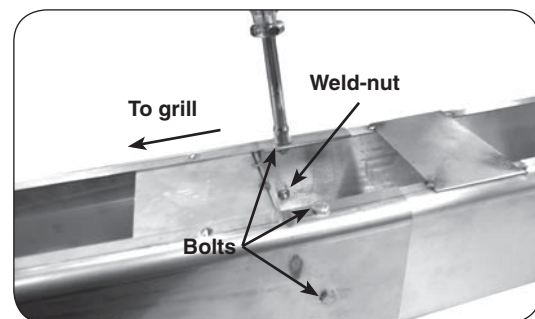

Fig. 20-2 Fasten extension to post
2. From outside the joined post and extension, insert one of the 1/4 X 20"-5/8 bolts (supplied) into each of the five (5) bolt holes and tighten each using a 7/16" socket driver or wrench (see Fig. 20-2).